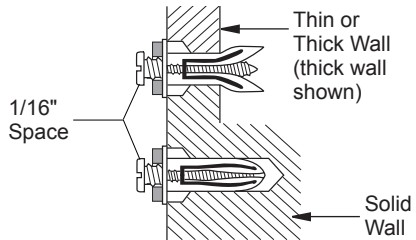

Figure 8 - Tightening Anchors
5. Tighten two screws until 1/16\" space (thickness of penny) is between screw heads and wall (see Figure 8).